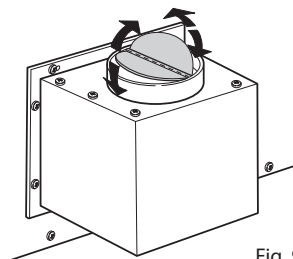

Fig. 9
**IMPORTANT:** Before connecting the air outlet flexible tube, make sure the extraction unit non-return valves are free to rotate (Figure 9).